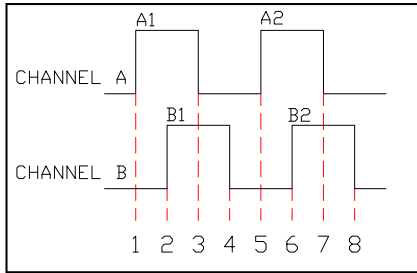

Figure 3. Quadrature encoder and quadrature counting.
- Two channels in quadrature, often referred to as a quadrature encoder (Figure 3)
### Quadrature (Figure 3)